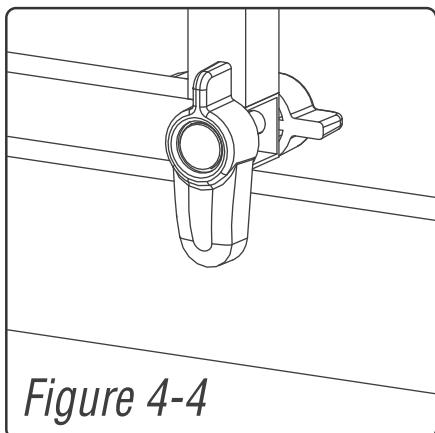

Figure 4-4
**To Close** - Pull the door shut and ensure that the door latch on top closes and then place the lock at the bottom of the gate down on the side occupied by the child, Gate will swing both ways unless one of the swing stops is down. Gate will not swing at all if both swing stops are down.(Figure 4-4)